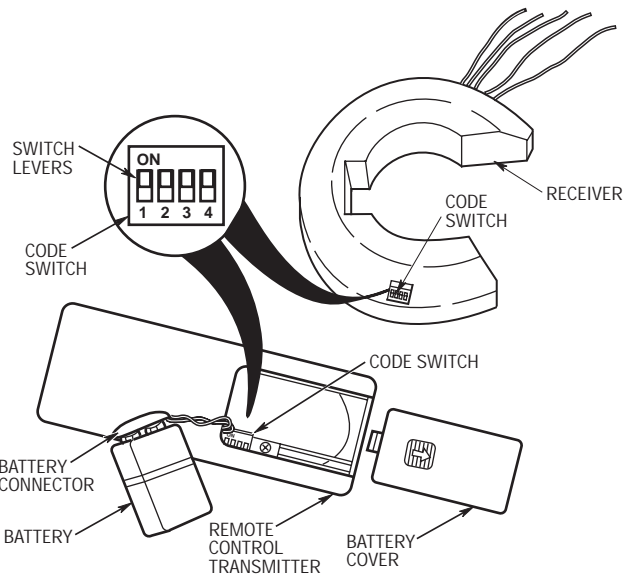

Figure 1
1. Remove the battery cover and install a 9-Volt alkaline battery (not supplied), oriented as shown in the battery compartment (Figure 1).
1. Slide the four switch levers (Figure 1) in the remote control transmitter to your choice of ON (up) or down positions. Use a ball-point pen or small screwdriver and slide the levers firmly up or down.